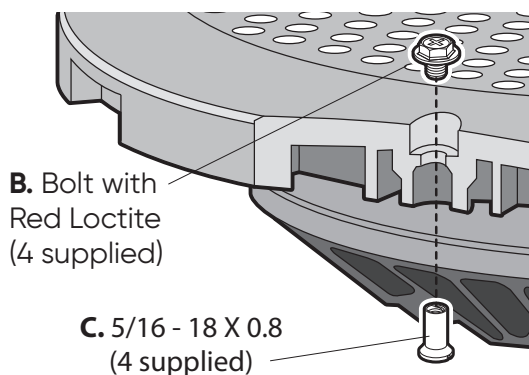

Fig. 1.3
6. Line up lid with the male socket set screws on the frame to secure the lid to the unit. (see figure 1.3)